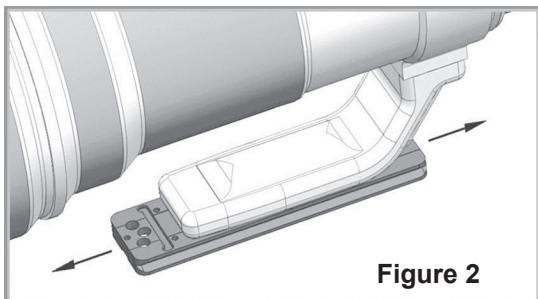
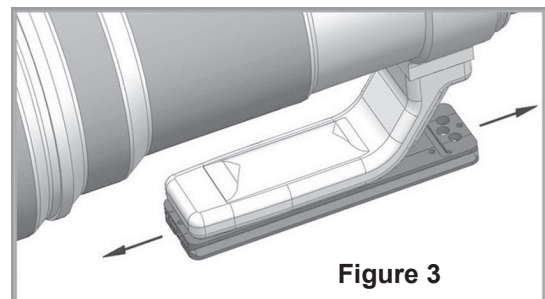

Figure 2
Figure 3
6. Position the lens plate on the lens foot. The plate can be positioned on the foot in either direction as needed, as in Fig. 2 & 3 below.
Positioning the plate on your lens: The plate position can be adjusted on the lens foot to suit your needs. It can be positioned either **facing forward** (Fig. 2) or **facing backward** (Fig. 3). The plate's elongated center slot allows you to adjust the back and forth position of the plate on the lens foot (illustrated with arrows in Fig. 2 & 3) while the screws are still engaged. Loosen the screws just enough to free up the plate (see step 5 above), then position the plate so that you: 1. can balance the lens in all scenarios (e.g. with teleconverters, flash brackets, different camera bodies, etc.) and 2. have enough plate contained within the clamp for a secure mount.